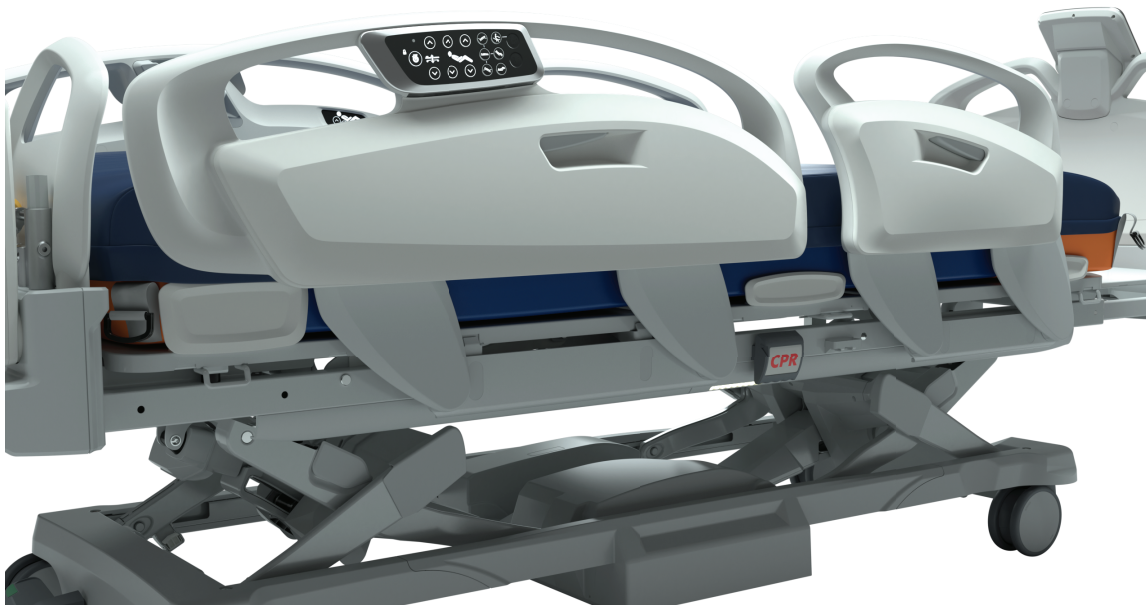

Figure 17 – Siderail highest position
- To raise the siderail to the highest position, press and hold the siderail release (N) (*Product illustration* (page 13)) and rotate the siderail up from either the lowest position or intermediate position (Figure 17).